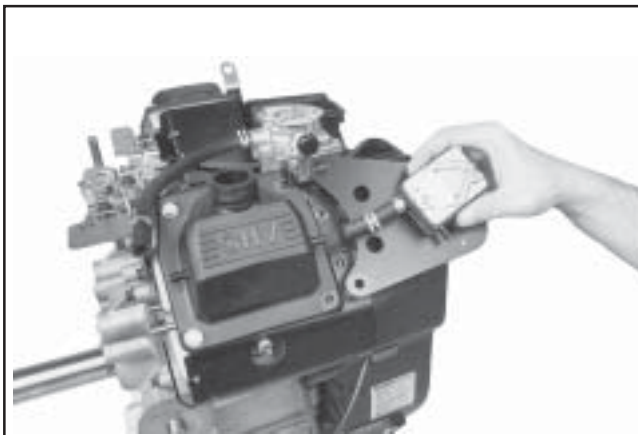

**Figure 9-15. Disconnecting Fuel Inlet Line at Carburetor.**
1. Disconnect the fuel lines at the carburetor and at the in-line fuel filter. See Figure 9-15.